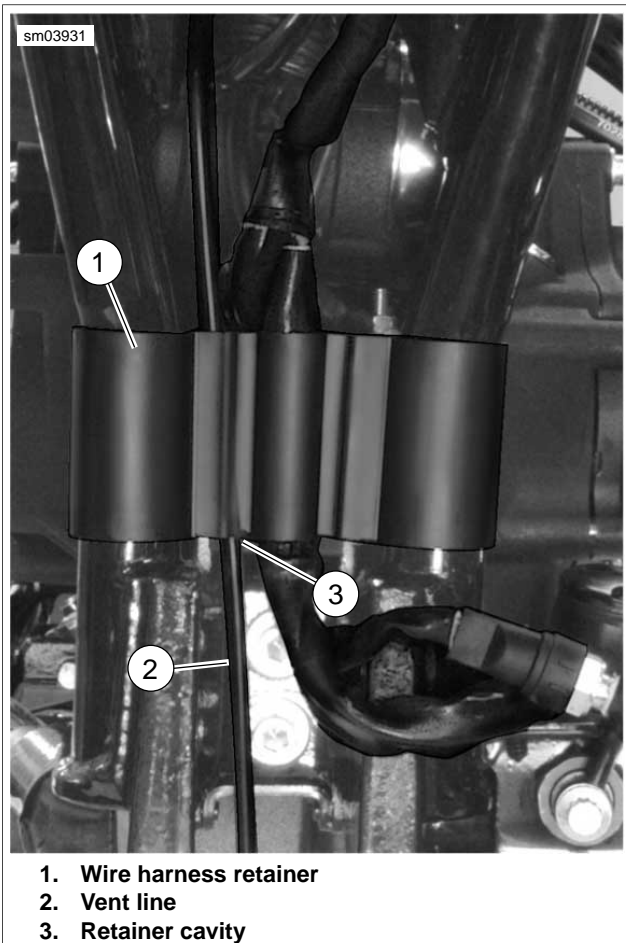

Figure 2-113. Harness Retainer
See Figure 2-113. Route the sensor harness in the same retainer cavity (3) as the vent tube (2).